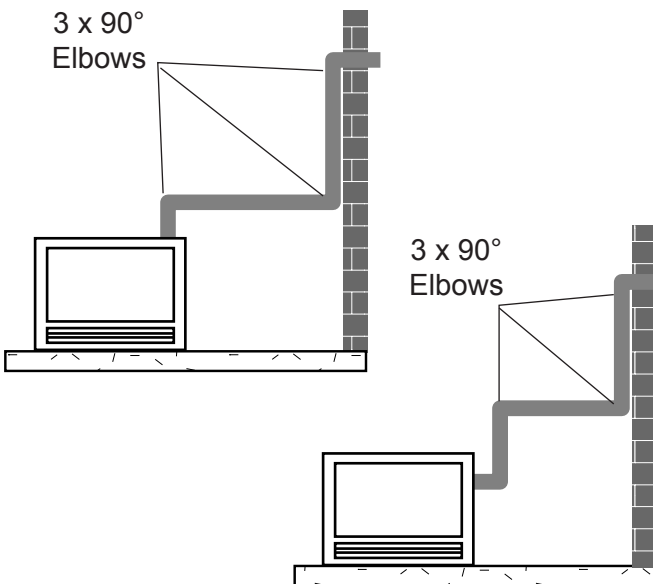

Figure 25 - Maximum Three (3) 90° Elbows Per Installation
- The maximum number of 90° elbows per side wall installation is three (3). *See Figure 25.*